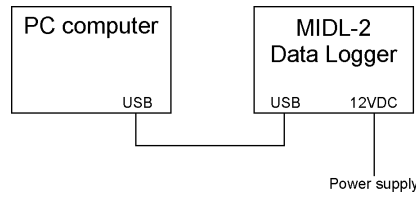

Fig. 4. Connecting the MIDL-2 data logger to PC computer
- USB – to connect PC compatible computer for testing and configuration of the data logger (Fig. 4).
Initial configuration of the MIDL-2 data logger requires its connection to PC compatible computer (Fig. 4) and running *ET USB Configurator* program.